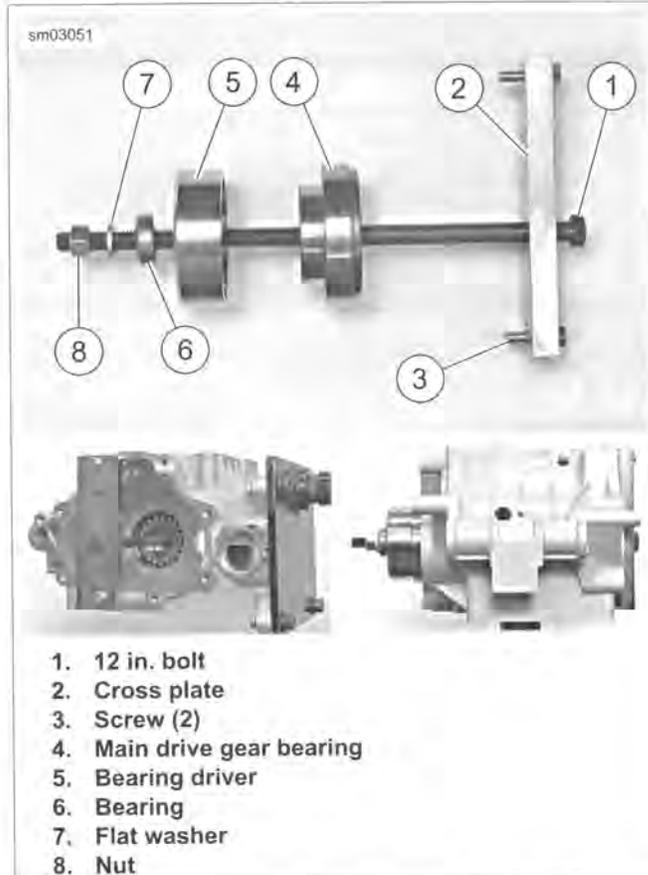

Figure 6-48. Installing Main Drive Gear Bearing (Typical)
1. See Figure 6-48. Secure CROSS PLATE (Part No. HD-35316-3A) (2) on right side of transmission case with two screws (3). Position cross plate with large bolt hole aligned with center of main drive gear bearing bore.
2. Apply a light coat of graphite lubricant to the threads of 12 IN. BOLT (Part No. HD-35316-5) (1) and install through cross plate and main drive gear bearing bore.
3. Place main drive gear bearing (4), BEARING DRIVER (Part No. HD-35316-8) (5), BEARING (6), FLAT WASHER (7) and NUT (8) over end of bolt.